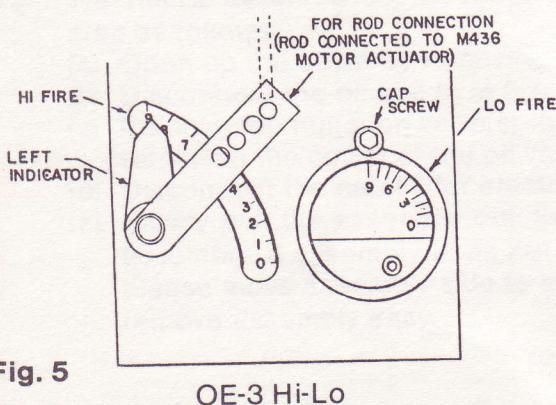

Fig. 5
- 7.g) When the burner is OFF, both air shutters should be closed. (Check under air intake box). Ref: Fig. 5.
- 13.2 Open the burner air adjustment partially, (Ref. Fig 5 and 6) open the fire or inspection door and turn on the service switch. Adjust draft regulator for maximum chimney draft.
THROUGH THE LIMIT WHEN CONTROL IS POWERED, THE BURNER MOTOR STARTS: DUE TO POWERED DRAFT NOW THE AIR SHUTTER OPENS UP WHICH CAN BE ADJUSTED TO DESIRED OPENING. (FIG. 5 REF. 7 A TO C) WITH 5 SECOND DELAY TIMER FIRST STAGE OIL VALVE OPENS AND LOW FIRE IS ESTABLISHED. AFTER THIS DELAY SIMULTANEOUSLY DAMPER MOTOR IS POWERED THROUGH HILO SWITCH WHICH IN TURN OPENS SECOND STAGE AIR SHUTTER. (REF. 7 D TO G) THE LINKAGE ROD IS USED TO PROPER DESIRED OPENING. AT DESIRED OPENING OF THE AIR SHUTTER SECOND STAGE OIL VALVE CAN BE POWERED WHICH IN TURN ESTABLISHES SECOND STAGE FLAME. (HI-FIRE).